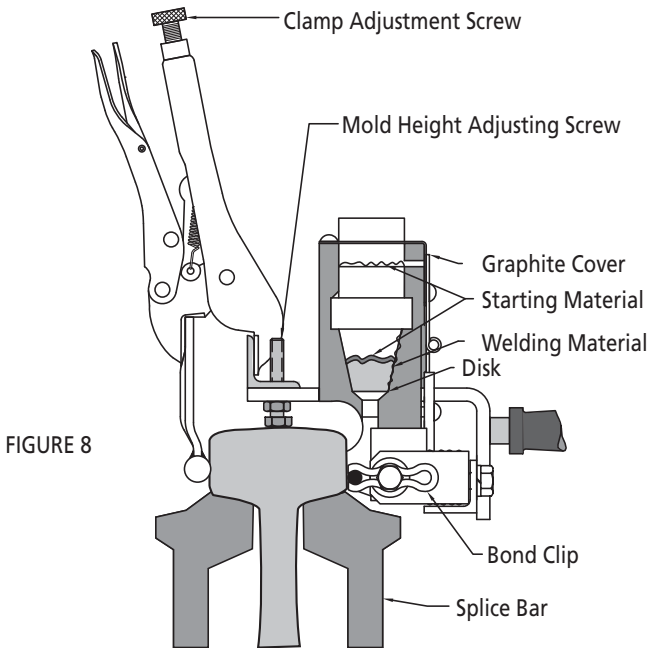

FIGURE 8
2. Position the welder with attached molds on the rail head. The bottom edge of the mold should be aligned with the lower edge of the rail head. Use the mold height adjusting screws to properly align the mold. **See Figure 8.**
3. Close clamp to lock welder on rail. Clamp is adjustable for rail sizes. Check that mold face fits against rail and bond terminal is held against rail by clevis. **See Figure 8.**